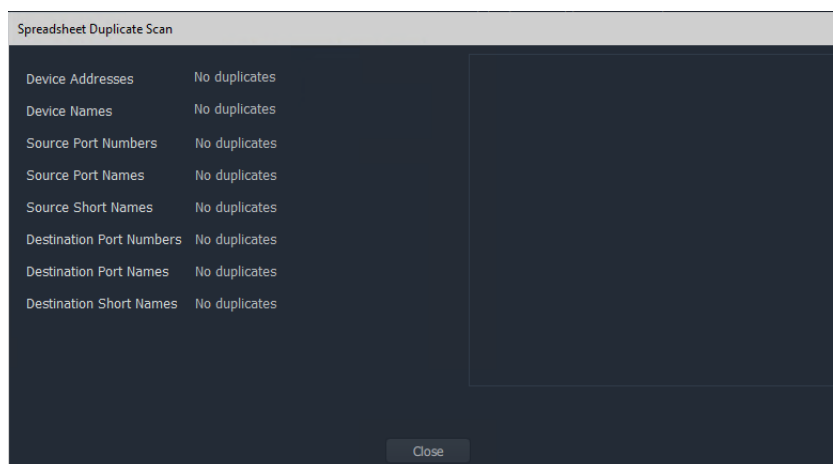

Fig. 17-15: Spreadsheet Duplication Dialog
- the result of these checks is shown in a summary **Spreadsheet Duplicate Scan** dialog, which pops up. See Figure 17-15.